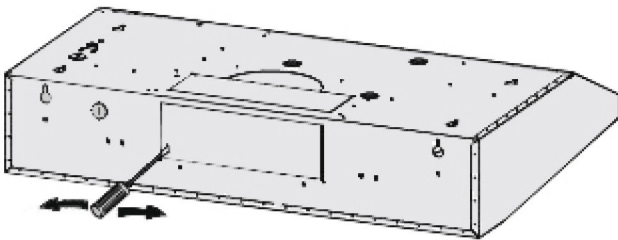

Figure 11
- If you require rectangular top (horizontal) venting simply install the rectangular damper provided. See Figure 11, 12 and 13 to remove plate, use screws 4 × 8 mm to connect damper.